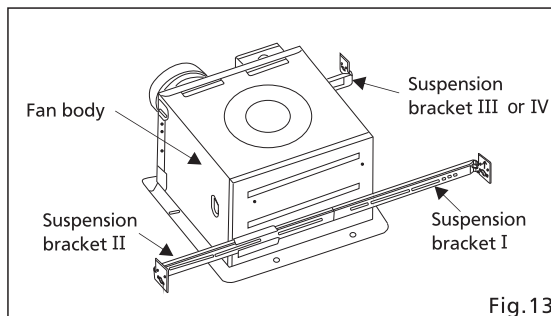

Fig.13
2. Insert the suspension bracket I and II into the fan body and suspension bracket III or IV into the adaptor. (Select the suspension bracket connection holes as shown below) (Fig.13, Fig. 14)